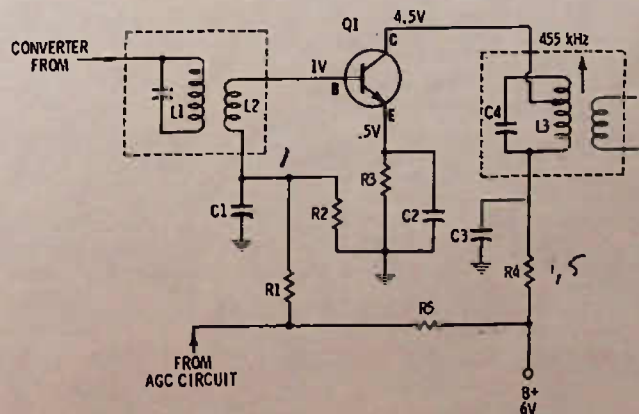

Fig. 11-9. I-f amplifier circuit for Questions 6 through 10.
- In Fig. 11-9, assuming the transistor is drawing 1.5 mA of collector current, resistors R3 and R4 are respectively about
- The transistor in Fig. 11-9 is
9. If C4 opens, in Fig. 11-9, the symptom would be
10. If R1 opens, in Fig. 11-9, the voltage on the emitter of Q1